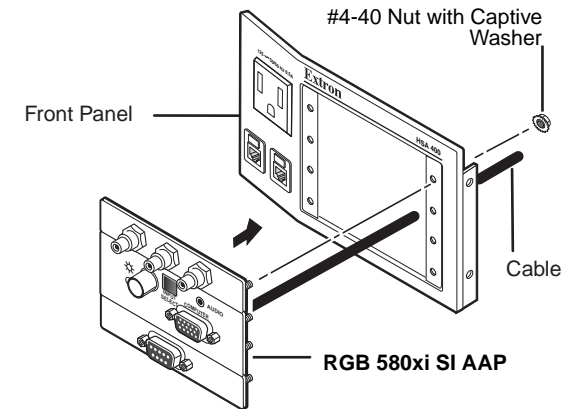

Figure 3-2 — Mounting an AAP device
4. Remove the AAP(s) to be replaced from the front panel by unscrewing the nuts on the rear of the panel that fasten the plates to the faceplate (figure 3-2).